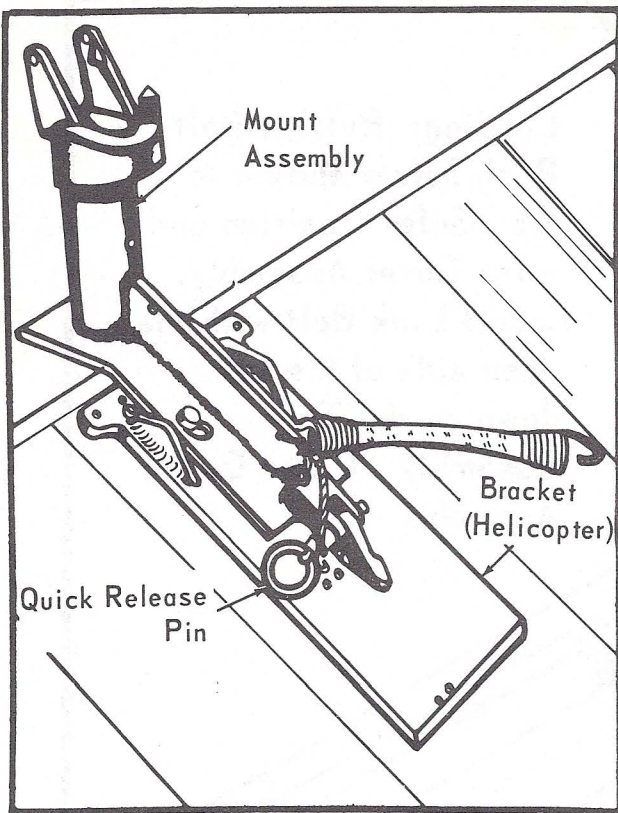

Figure 4-11. M41 Mount Assembly—Installed on Ramp
The mount assembly is positioned on the lugs of the ramp bracket and is secured with a quick-release pin. (See figure 4-11.)
b. The quick-release pin, attached by cable to the rear of the mount assembly, secures the mount assembly to the ramp. (See figure 4-11.)